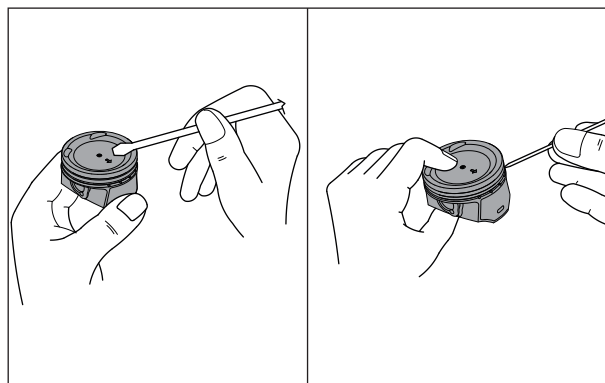

Fig. 3.88
- Decarbonise the piston and piston ring grooves. After cleaning the grooves, fit the rings and rotate them in their respective grooves to make sure that they rotate freely. (Fig. 3.88)